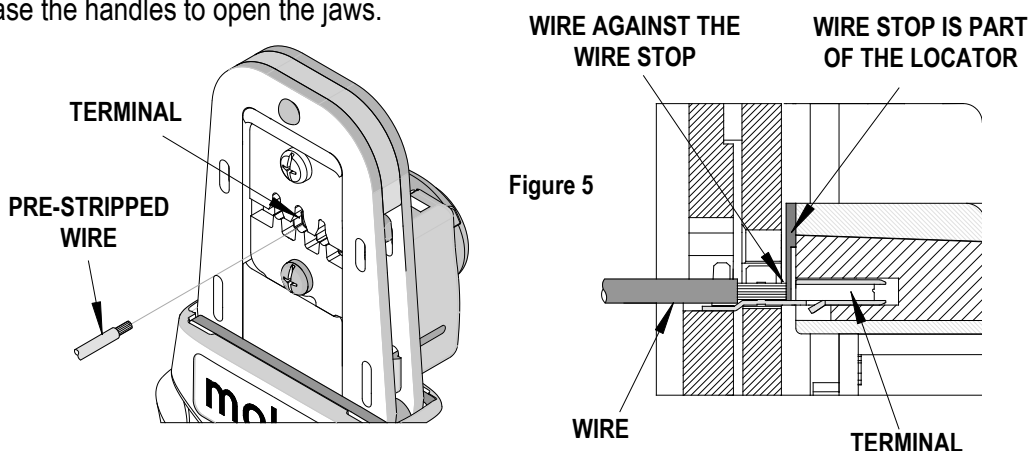

Figure 5
6. Insert the properly stripped wire above the terminal and against the wire stop locator. See Figure 5.